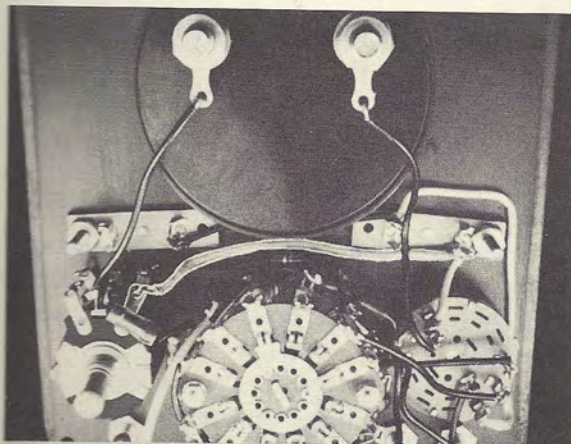

Fig. 12-7
Step 4. Run the wire as shown in Fig. 12-7, and solder one end to terminal 1 of potentiometer  $P_2$ .